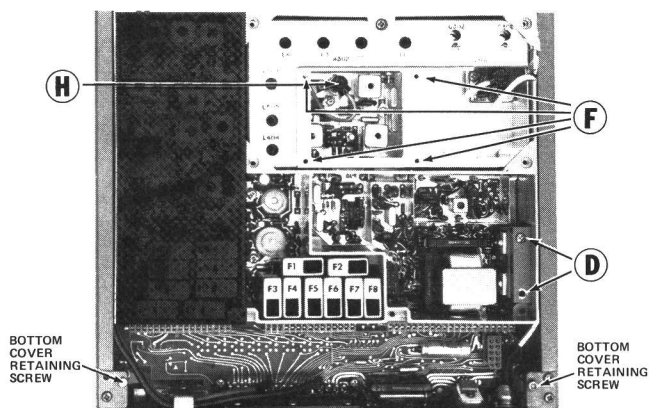

Figure 2 - Disassembly Procedure (Top View)
| Figure 2 - Disassembly Procedure (Top View) | 2 |
2. Remove the top cover, then loosen the two bottom cover retaining screws and remove the bottom cover (see Figure 2).